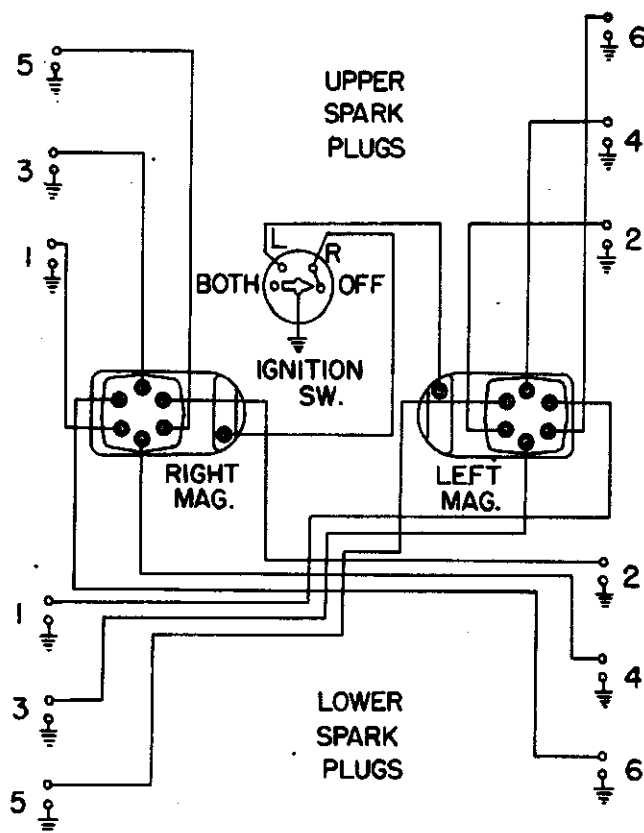

Figure 73. Ignition Wiring Diagram
**12-26. IGNITION HARNESS.** (See figure 73.)
a. The high tension cable outlet plate of each cable assembly can be attached to either magneto in only one position, due to the unequal screw spacing. The very shortest ignition cable is for No. 1 upper spark plug, and identifies the proper assembly for the right magneto. The wiring may be traced with the aid of either figure 55 or figure 73. Notice the "1" on the outlet plates next to the No. 1 cylinder cable outlet holes.
c. Lay the lower spark plug cables from each magneto across the brace (23) on the crankcase top